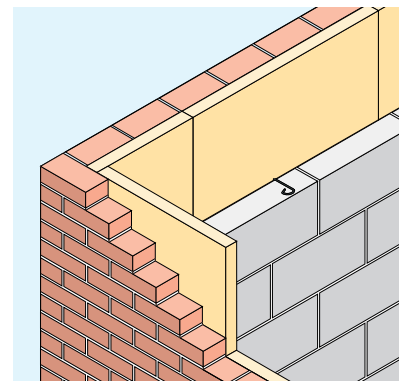

Figure 5 Batts close butted at corners
- 12 Fit the batts closely around wall openings. Slit the batts neatly where additional wall ties occur. Do not impale or tear them. At corner joints, edges must be cut accurately to ensure close butting (see Fig 5).